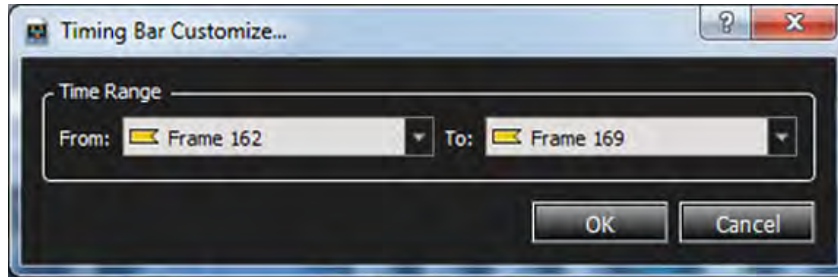

Figure 5.45: Timing Bar Customize
1. Frame 162 is selected for the **From** Marker and Frame 169 is selected for the **To** Marker. The Timing Bar Customize dialog box displays the two Markers of interest (Figure 5.45).